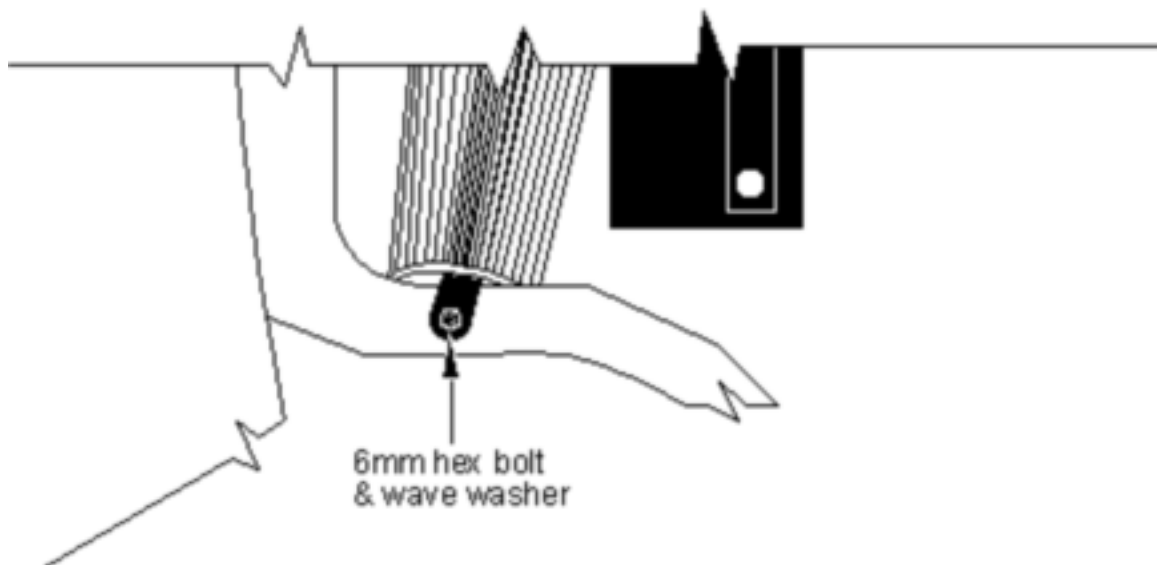

fig.4
- 7) Slide the K&N air filter onto the adapter and secure. Place the bracket on front grill area (see fig.4 for location). Position for best clearance and Drill a 1/4" hole into front grill area where the bracket lined up. Secure with the provided hardware.